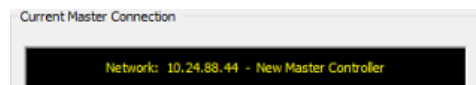

FIG. 132 Communications Settings dialog indicating the selected Master connection
7. Select the new Master connection in the *List of Addresses*. This populates the *Current Master Connection* field (FIG. 132).